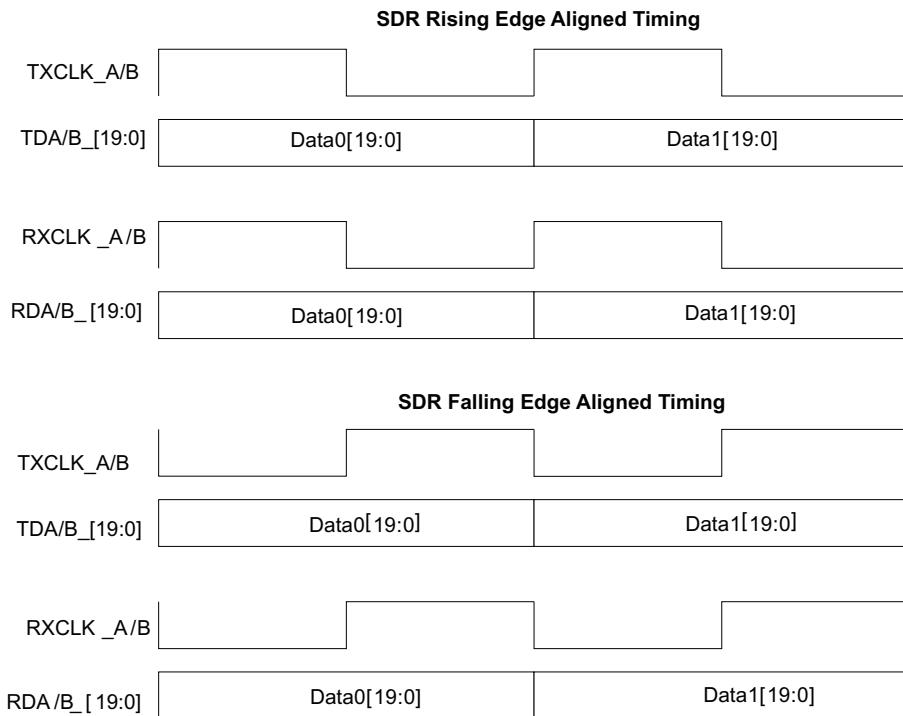

Figure 2-1. 20-bit SDR Parallel Interface Mode
20 Bits (two symbols) of already encoded (TX) or undecoded (RX) data are transferred per parallel interface clock cycle. Symbols are defined by a group of 10 parallel bits. Note that four symbols are shown in Figure 2-1: Data0[19:10], Data0[9:0], Data1[19:10], Data1[9:0].
The 16 Bits (two symbols) of unencoded (TX) or decoded (RX) data are transferred per parallel interface clock cycle. Symbols are defined by a group of 9 parallel bits comprising of a K character control bit and a byte of data (plus a high true disparity error or invalid symbol bit in RX only on RD*_[19] and RD*_[9]). Please note that four symbols are shown in Figure 2-1: Data0[18:10]={Control Bit, Data[7:0]}, Data0[8:0]={Control Bit, Data[7:0]}, Data1[18:10] ={Control Bit, Data[7:0]}, Data1[8:0] ={Control Bit, Data[7:0]}. TXDA_[19], TXDA_[9], TXDB_[19], and TXDB_[9] are unused, and should be grounded in this application mode. See Appendix C for a full list of control characters supported in the 8b/10b encoder/decoder.
Figure 2-1 shows the two modes of operation in SDR mode, rising edge aligned mode and falling edge aligned mode. In rising edge aligned mode, TDA_* and TDB_* inputs are sampled on the falling edges of TXCLK_A and TXCLK_B respectively. In falling edge aligned mode, TDA_* and TDB_* inputs are sampled on the rising edge of TXCLK_A and TXCLK_B respectively. In rising edge aligned mode, RDA_* and RDB_* are timed such that an external device can sample the data using the falling edge of RXCLK_A and RXCLK_B respectively. In falling edge aligned mode, RDA_* and RDB_* are timed such that an external device can sample the data using the rising edge of RXCLK_A and RXCLK_B respectively.